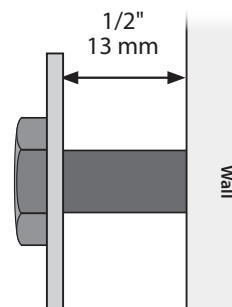

FIG. 7
Place washers onto each fastener and thread the fasteners into all four holes, leaving at least 1/2" outside of the hole to fit the Wall Bracket (F) and Rear Support Brace (G13) [FIG. 7].